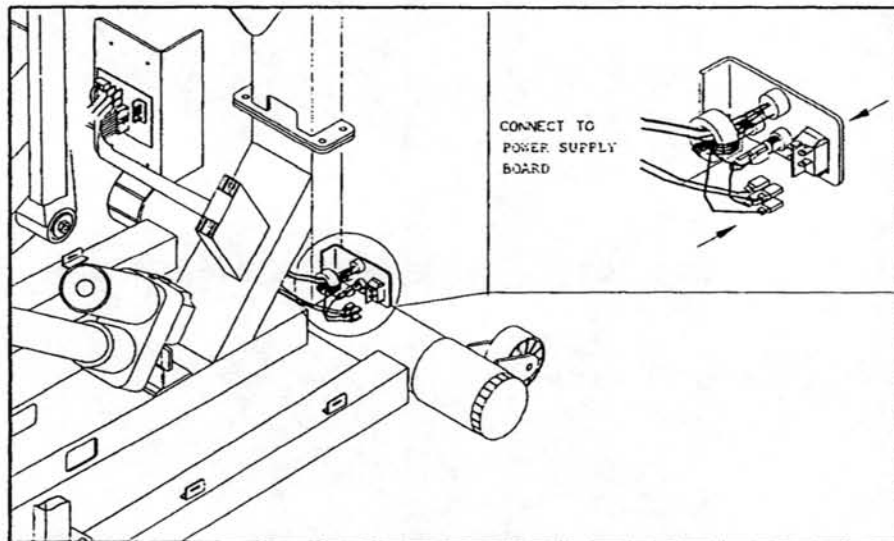

Fig.20-2
2. Replace a new POWER SWITCH and make the FIXED CLIP OF SWITCH to locate on the proper position. Plug all connectors into the POWER SWITCH(see fig.20-2).